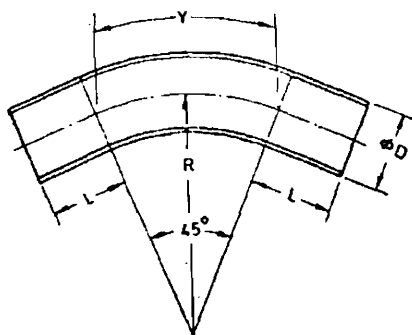

FIG. 1 45° BEND
2.2.2 Dimensions — The dimensions of 45° bends shall comply with Table 1 read with Fig. 1.
(Clauses 2.2.2 and 2.2.3, and Fig. 1)
2.2.2 Dimensions — The dimensions of 90° bends shall comply with Table 1 read with Fig. 1.
(Clauses 2.2.2, 2.2.3 and Fig. 1)